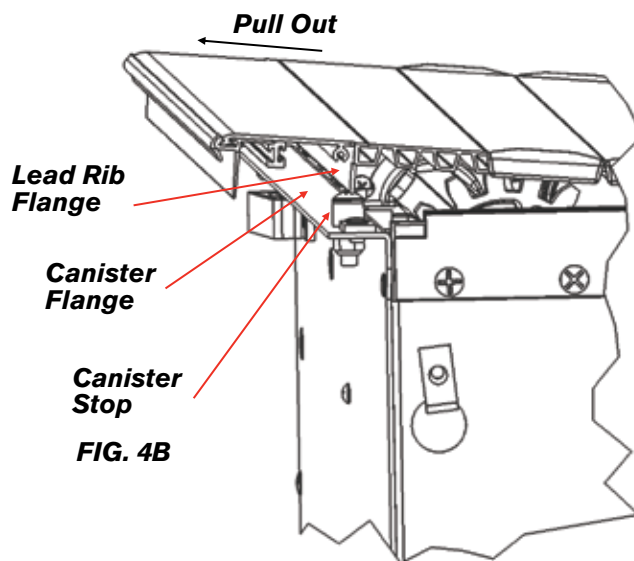

FIG. 4B
- First, make sure that the Lead Rib Flange is in pulled toward the tailgate enough to clear the Canister Flange and Canister Stop (FIG 4B).
Figure 4B shows that the lead rib needs to be pulled out toward the tail gate. Now hook the rail into the rail guide and roll it down making sure to not get the sweep seal folded back into the rail (FIG 4C).